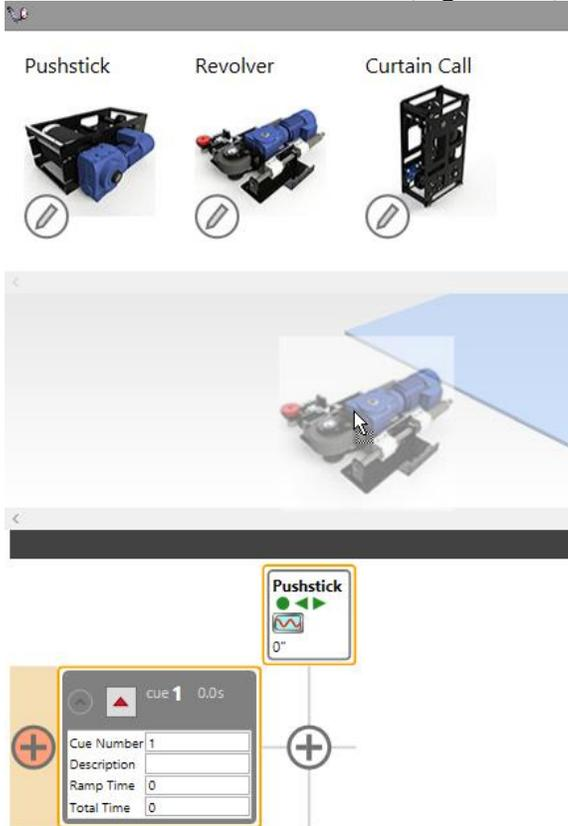

Figure 165
3. Drag the Revolver machine from the Machine Library and drop it either on the Stage Model Viewer or the Cue Grid (Figure 165).